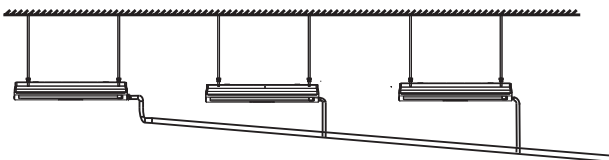

Figure 5.2
- When the outlet of the water discharge pipe is higher than the pipe connection for water suction, try to keep the water discharge pipe as vertical as possible, and the water outlet connecting fittings will bend so that the height of the water discharge pipe should be within 1000 mm away from the base of the drain pan. Otherwise, there will be excessive water flow when the operation stops. See Figure 5.2.